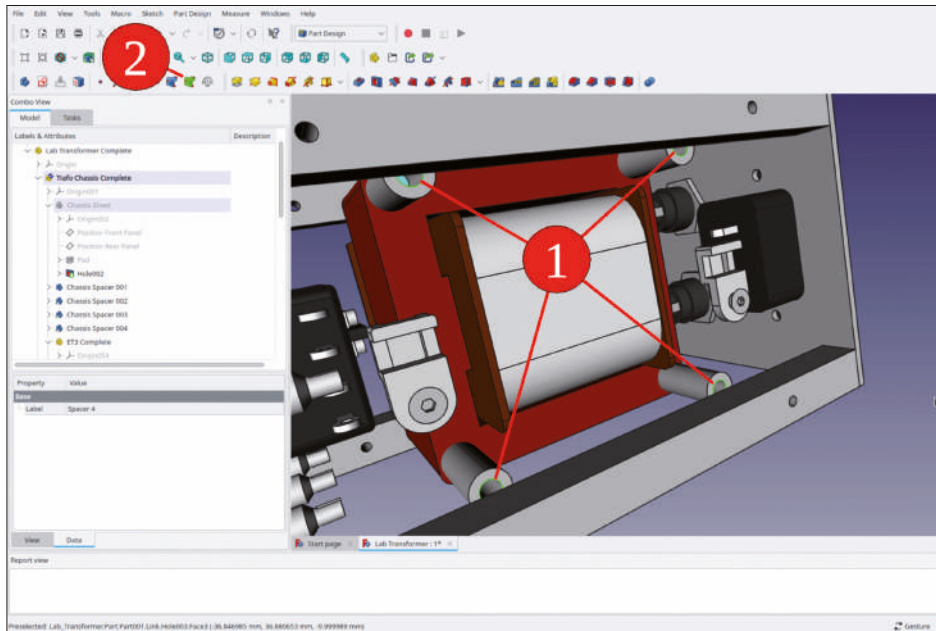

Figure 9-94
9. In the 3D view, from the bottom of the transformer, mark the inner contours of the transformer spacers. Then, click the green 'Create a sub object(s) shape binder' tool button (Figure 9-94).